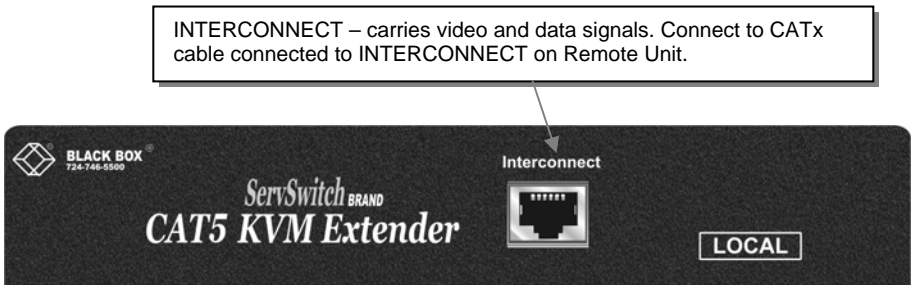

Figure 7 Local Unit – front view
6. Connect the CATx cable to the INTERCONNECT socket on the front of the Local Unit (see Figure 7).